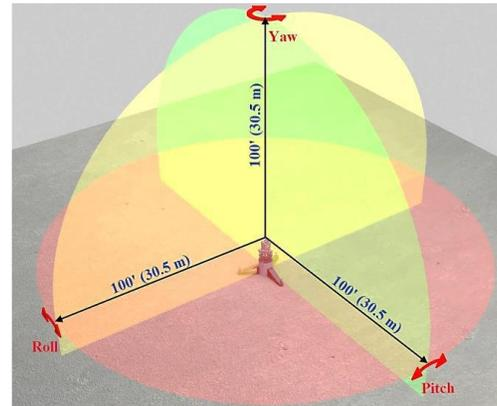

Figure 20 – L-743 Triple Scan's three mutually perpendicular laser planes
6. Mount an A-1519-2.4ZB/A-1519-2.4XBE Target on the log carriage (or fixture to simulate the carriage) horizontally and adjust so that it detects the laser beam. A second A-1519-2.4ZB/A-1519-2.4XBE can be mounted vertically on the carriage to measure flatness/level (this setup is similar to the machine tool setup in image shown in Figure 20). Now both A-1519-2.4ZB/A-1519-2.4XBE measuring targets on the carriage are zeroed at a location next to the laser.